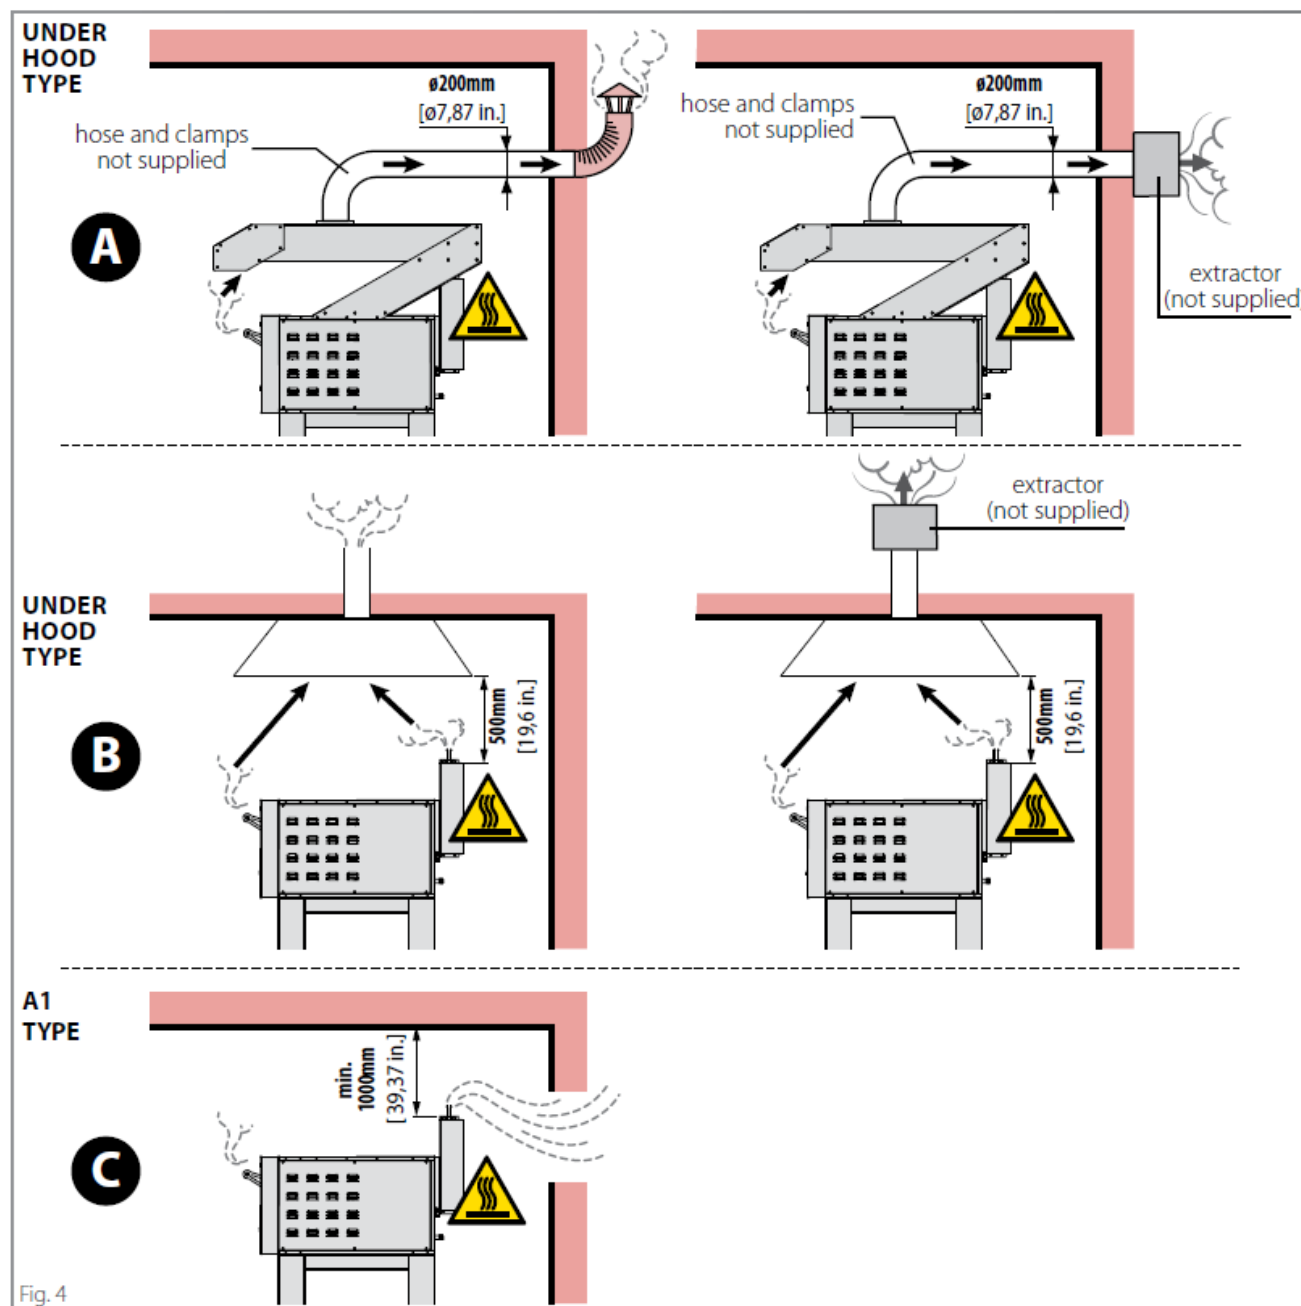

Fig. 4
► **Fig. 4** The oven is equipped with a smoke outlet located at the back for the evacuation of the vapours from the cooking chamber and the gases (you can find its exact position in the “Technical data” section starting on page 8).